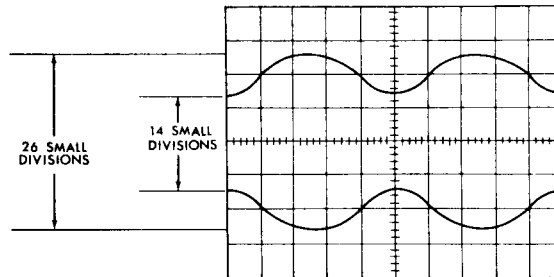

Figure 5. Test instrument - 30-percent modulation waveform.
- (3) Adjust oscilloscope controls as necessary. Oscilloscope display will be as shown in figure 5. If not, perform **b** below.